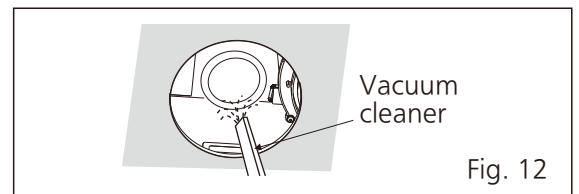

Fig. 12
4. Remove dust and dirt from fan body using a vacuum cleaner. (Fig. 12)